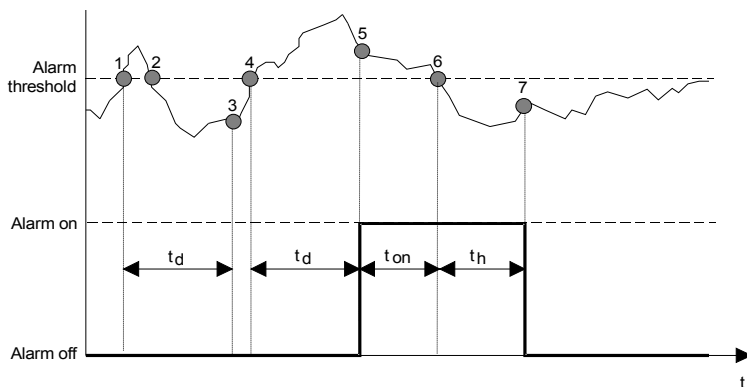

Figure 23: Alarm triggering
- Below “Delay”, enter the time  $t_d$  from 0 to 99 seconds, for the duration of which, the alarm condition must persist before the relay switches. If the signal already falls below the alarm limit before the delay is over, triggering will not occur. “old time” determines the minimum hold time  $t_h$  of an alarm’s switching status from 0 to 9 seconds. Figure 23 displays the effect of both delay times in a graph.